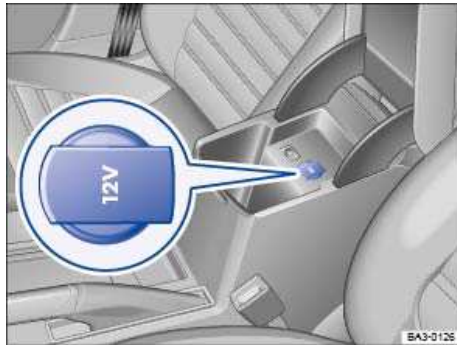

Fig. 149 12 Volt socket in the front center armrest.
- In the storage compartment in the front center armrest ⇒ fig. 149.